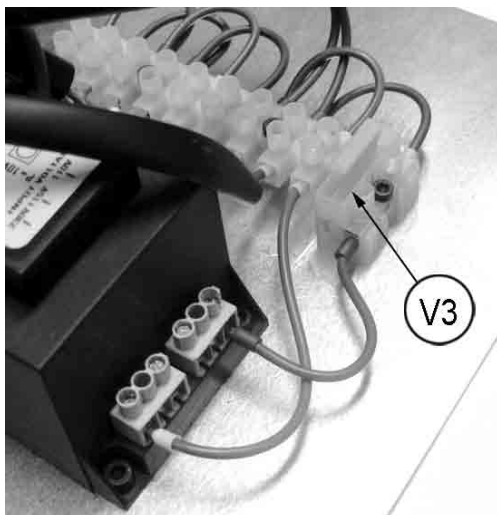
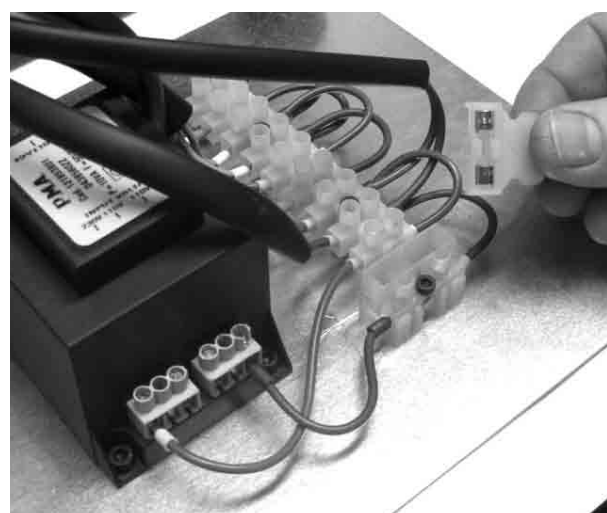

Fig. 68
Fig. 69
- 1) Take the fuse out of its seat (V3) (Fig. 68 and Fig. 69).